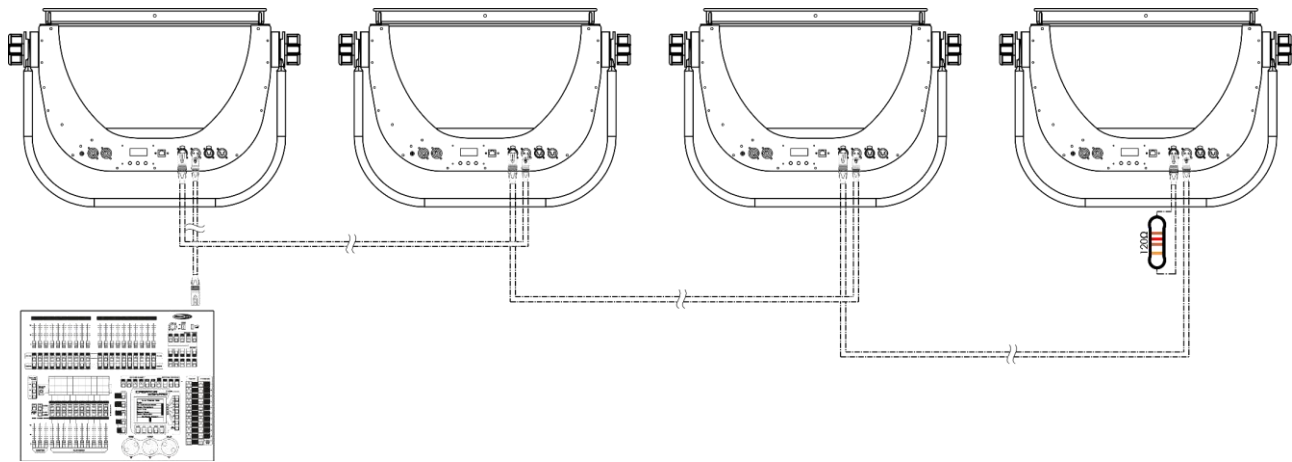

Fig. 13
- 04) Link the units as shown in Fig. 13. Connect the first unit's DMX "out" socket with the second unit's "in" socket, using a DMX-signal cable. Repeat this process to link the second, third and fourth units.